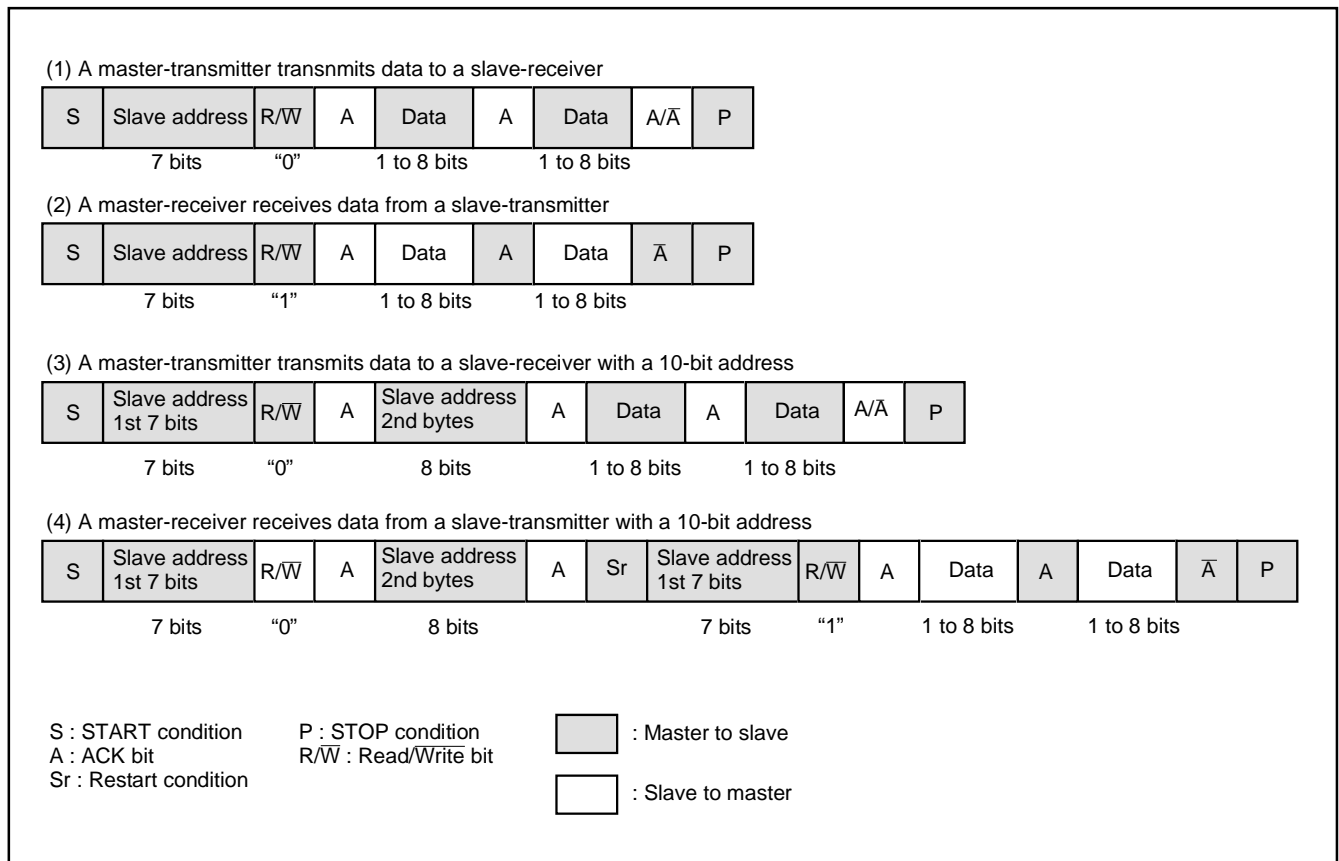

Fig. 75 Address data communication format
① 7-bit addressing format
To adapt the 7-bit addressing format, set the 10BIT SAD bit of the I2C control register (S1D: address 001416) to "0". The first 7-bit address data transmitted from the master is compared with the high-order 7-bit slave address stored in the I2C slave address register. At the time of this comparison, address comparison of the RWB bit of the I2C slave address register is not performed. For the data transmission format when the 7-bit addressing format is selected, refer to Figure 75, (1) and (2).
② 10-bit addressing format
When the first-byte address data agree with the slave address, the AAS bit of the I2C status register (S1: address 001316) is set to "1." After the second-byte address data is stored into the I2C data shift register (S0: address 001116), perform an address comparison between the second-byte data and the slave address by software. When the address data of the 2 bytes agree with the slave address, set the RWB bit of the I2C slave address register to "1" by software. This processing can make the 7-bit slave address and R/W data agree, which are received after a RESTART condition is detected, with the value of the I2C slave address register. For the data transmission format when the 10-bit addressing format is selected, refer to Figure 75, (3) and (4).